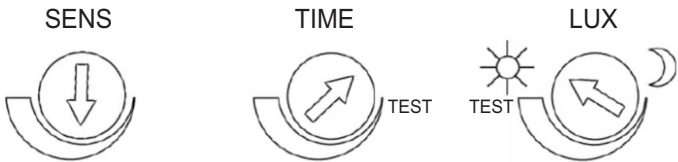

Figure 6
(1) TEST MODE
- Set the SENS control to its midpoint. Turn the Light control clockwise and the time control anti-clockwise to the edge – the TEST position (**Figure 6**).